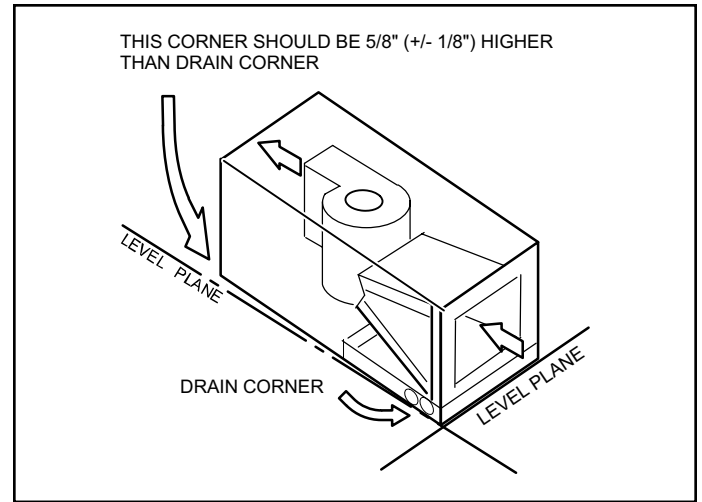

Figure 6. Sloping the Unit for Proper Drainage
3. Set unit so that it is sloped toward the upflow drain pan end of the unit and level from front to back of unit (see Figure 6).
Make sure the unit is sloped (similar to the slope shown in Figure 6) so that the drain pan will empty completely without water standing in the pan.